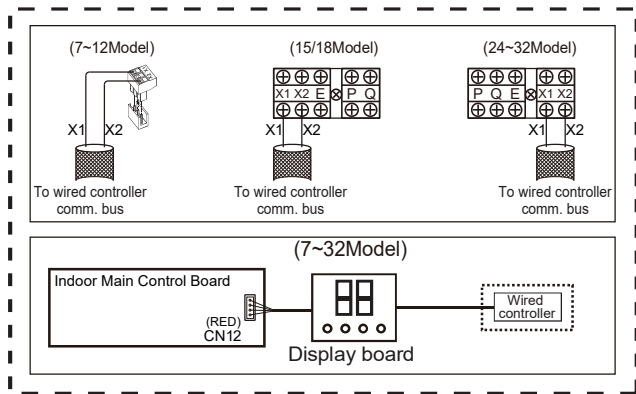

Figure 6.10
- The X1, X2 ports on the sides of the main control board and the unidirectional communication port (display board side) are for different types of wired controllers (see Figure 6.10).